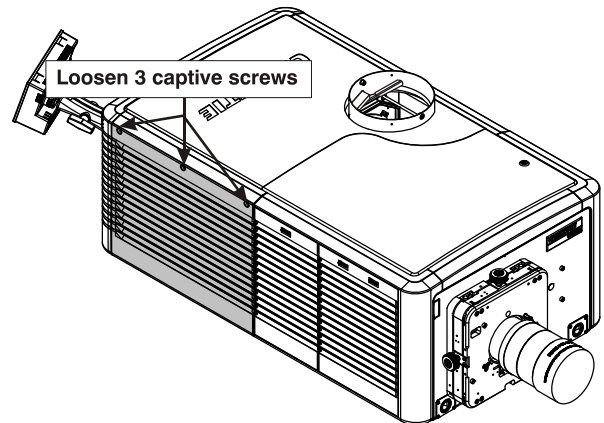

Figure 5-8 LVPS/LPS Cover
1. Using a #2 Phillips™, loosen the three captive screws from the top of the cover (**Figure 5-8**).
5. Remove the LVPS/LPS cover (Figure 5-8).